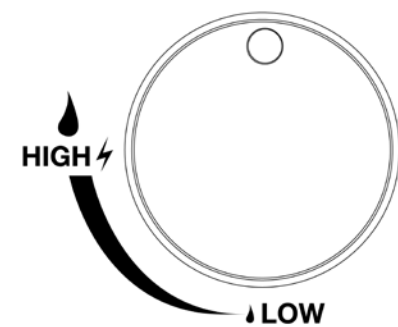

Figure 4
4. Spoon leak check solution at all "X" locations (Figure 4)